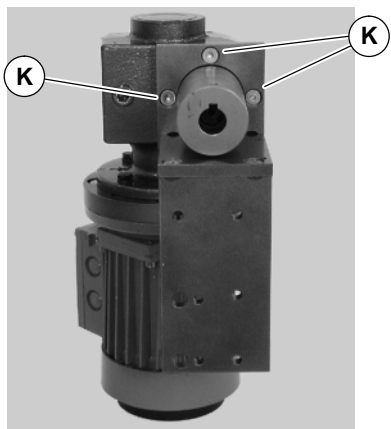

Figure 6
4. If required, change gearmotor position by removing screws (K of Figure 6). Rotate gearmotor to other position (Figure 3) and replace screws (K). Tighten to 110 in-lb (12 Nm).